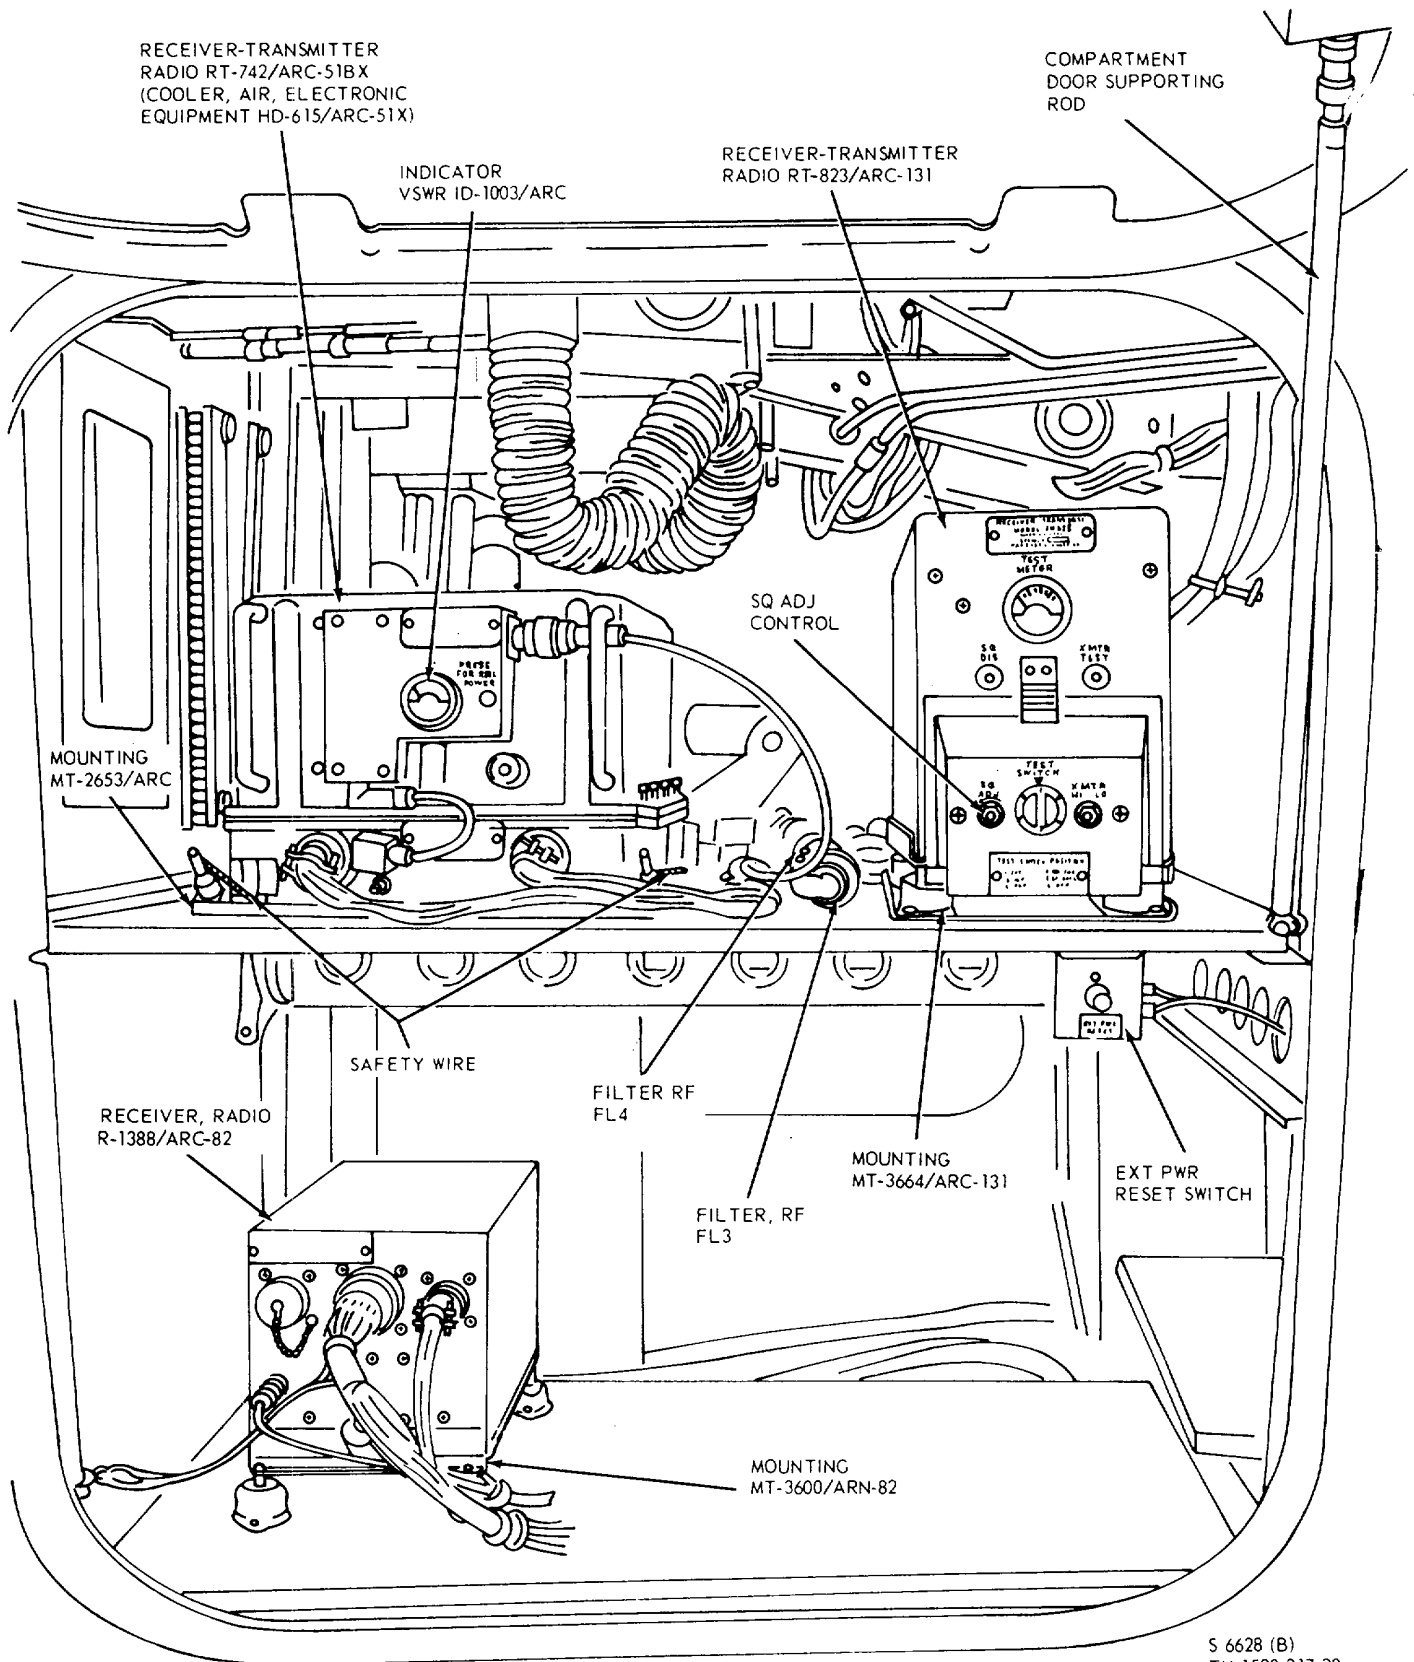

Figure 2-11. Right-hand electronics compartment location.
(1) *Removal of Receiver-Transmitter, Radio RT-823/ARC-131* (fig. 2-11).
(2) *Replacement of Receiver-Transmitter, Radio RT-823/ARC-131* (fig. 2-11).
(3) Removal of Mounting MT-3664/ARC-131 (fig. 2-11).
(4) *Replacement of Mounting MT-3664/ARC-131* (fig. 2-11).
(1) *Removal of Receiver-Transmitter, Radio RT-742/ARC-51BX* (fig. 2-11).
(2) *Replacement of Receiver-Transmitter, Radio RT-742/ARC-51BX* (fig. 2-11).
(3) *Removal of Mounting MT-2653/ARC* (fig. 2-11).
(4) *Replacement of Mounting MT-2653/ARC* (fig. 2-11).
(1) *Removal of Receiver, Radio R-1388/ARN-82* (fig. 2-11).
(2) *Replacement of Receiver, Radio R-1388/ARN-82* (fig 2-11).
(3) *Removal of Mounting MT-3600/ARN-82* (fig. 2-11).
(4) *Replacement of Mounting MT-3600/ARN-82* (fig. 2-11).